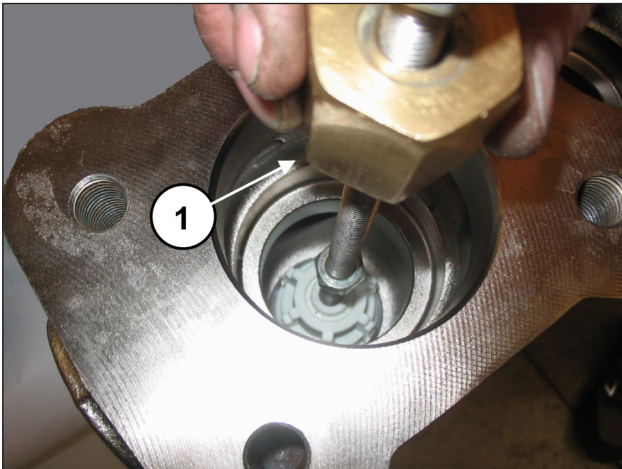

Fig. 112
Extract the suction valve unit with an extractor hammer to be applied on the M10 hole of the valve guide (pos. ①, Fig. 112).